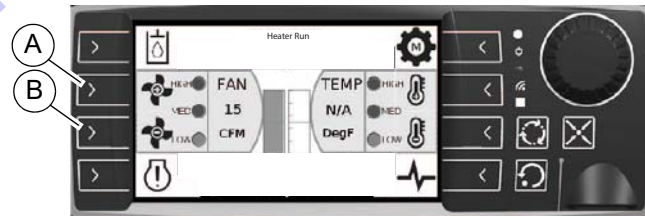

Figure 3-5. Heater CFM Adjustment
2. See Figure 3-5. Adjust heater CFM by pressing *Increase* (A) or *Decrease* (B).